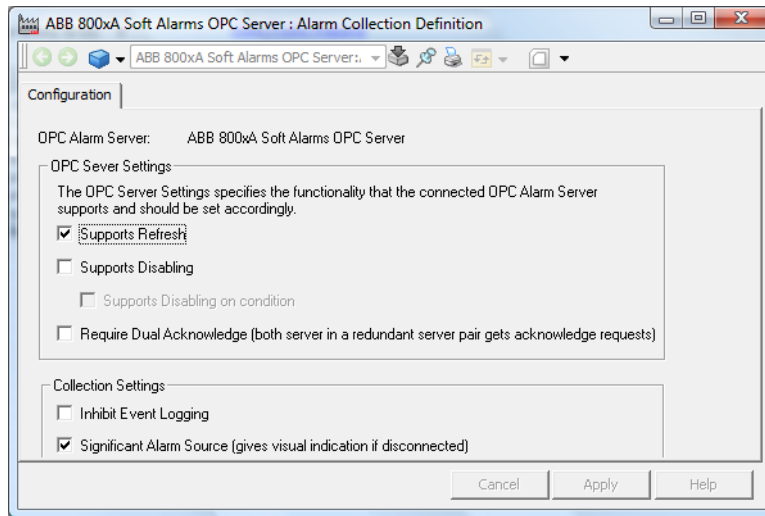

Figure 280. Alarm Collection Definition
1. Specify the appropriate settings for the OPC server, refer to Figure 280.